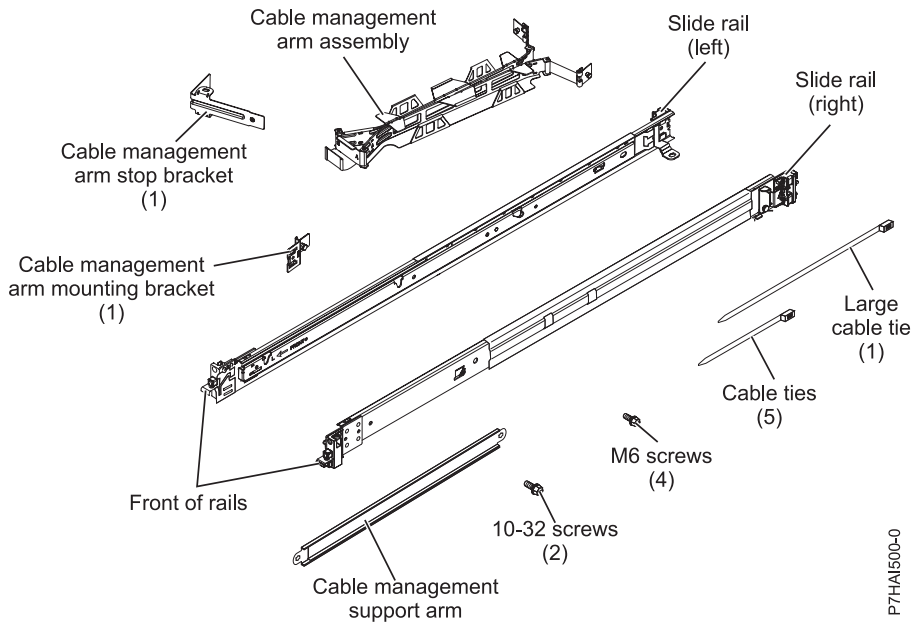

Figure 19. Parts inventory
3. Locate the rack-mounting hardware kit **(A)** and the rack rails **(B)** that were included with your system unit as shown in Figure 19.